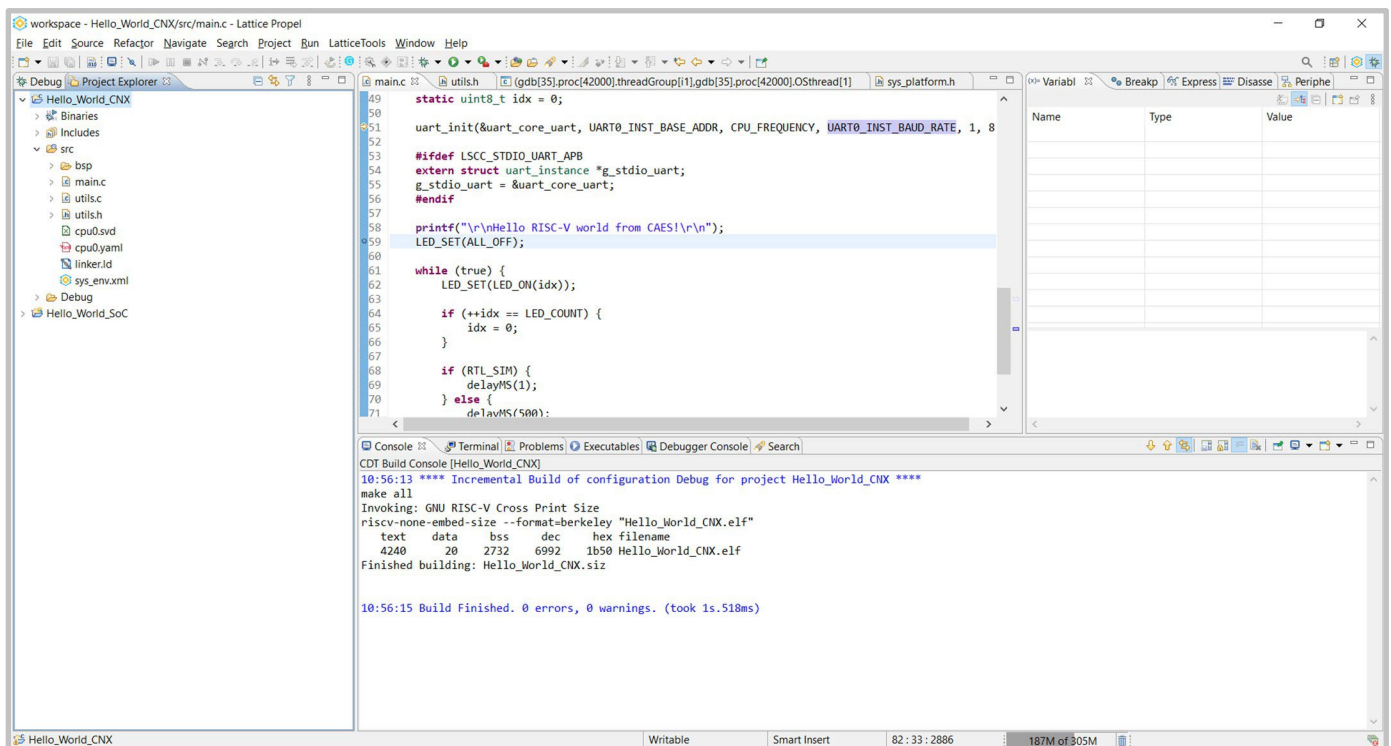

Figure 2: Lattice Propel
- a **GUI** for code editing, compiling, and debugging using the GNU toolchain, which provides the compiler, assembler and linker, see **Figure 2**.